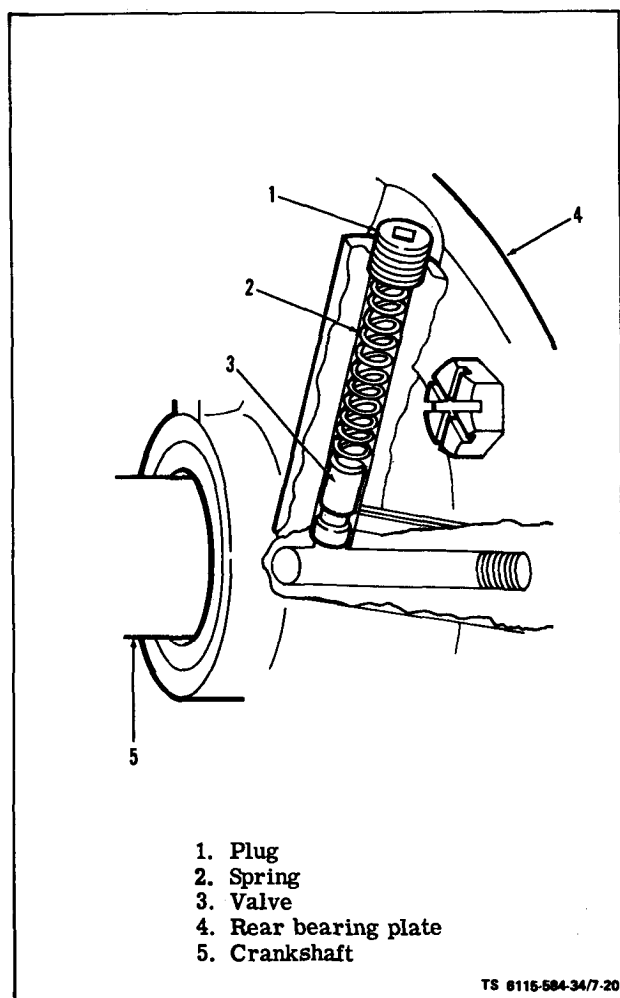

Figure 7-20. Oil By-pass Valve
a. Test on Equipment (see figure 7-20). High oil pressure may be caused by the by-pass valve plunger sticking closed. Low oil pressure may be caused by the by-pass valve plunger sticking open. If these conditions exist, clean and inspect by-pass valve.
(1) Remove generator, engine flywheel, and adapter.
(2) Unscrew recessed plug (1, figure 7-20) in rear bearing plate (4).
(3) Lift out by-pass spring (2, figure 7-20) and valve plunger (3).
(1) Thoroughly clean spring (2, figure 7-20) and plunger (3). Replace defective or worn parts.
(1) Assemble spring (2, figure 7-20) and plunger (3) and install in bearing plate (4).
(2) Install plug (1).